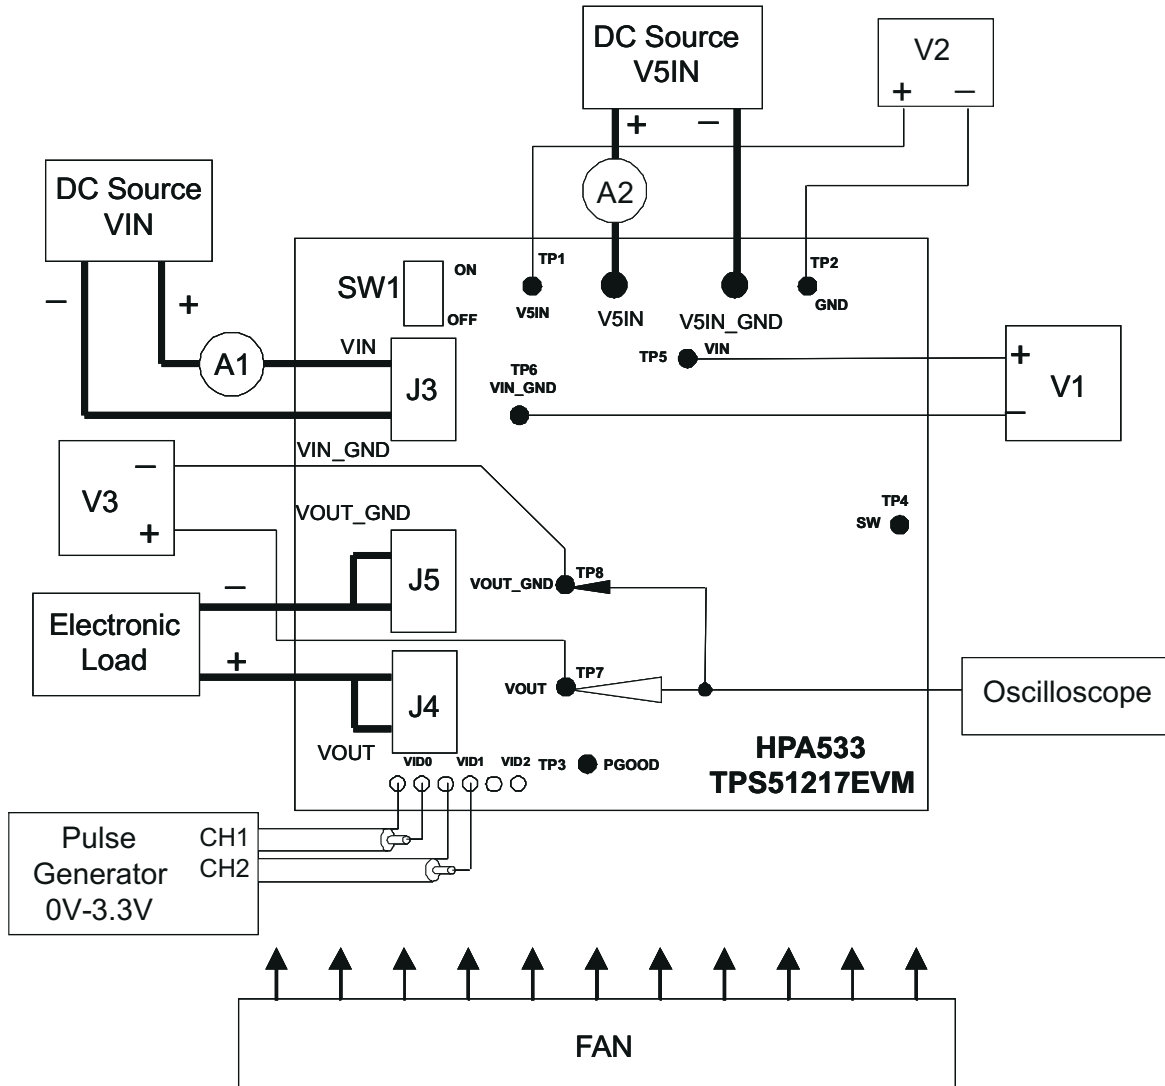

Figure 4-2. Recommended Test Setup
The input voltage source, VIN, should be a variable DC source between 0 V and 20 V capable of supplying 10 A_{DC}. Connect VIN to J3 as shown in Figure 4-2. The input voltage source V5IN should be variable DC source between 0 V and 5.5 V capable of supplying 1 A_{DC}. Connect V5IN to J1 and J2 as shown in Figure 4-2.
A voltmeter between 0 V and 21 V should be used to measure VIN at TP5 (VIN) and TP6 (VIN_GND). A voltmeter between 0 V and 7 V should be used to measure V5IN at TP1 (V5IN) and TP2 (V5IN_GND). A voltmeter between 0 V and 5 V should be used to measure VOUT at TP7 (VOUT) and TP8 (VOUT_GND). A current meter between 0 A and 10 A (A1) as shown in Figure 4-2 is used for VIN input current measurements. A current meter between 0 A and 1 A (A2) as shown in Figure 4-2 is used for V5IN input current measurements.
Figure 4-2 shows the recommended test setup to evaluate the TPS51217EVM. Working at an ESD workstation, make sure that any wrist straps, bootstraps, or mats are connected, referencing the user to earth ground before power is applied to the EVM.
1. Prior to connecting the DC input source VIN and V5IN, it is advisable to limit the source current from VIN to 10 A and from V5IN to 1 A maximum. Make sure VIN and V5IN are initially set to 0 V and connected as shown in Figure 4-2.
Place a fan as shown in Figure 4-2 and turn it on, making sure air is flowing across the EVM.